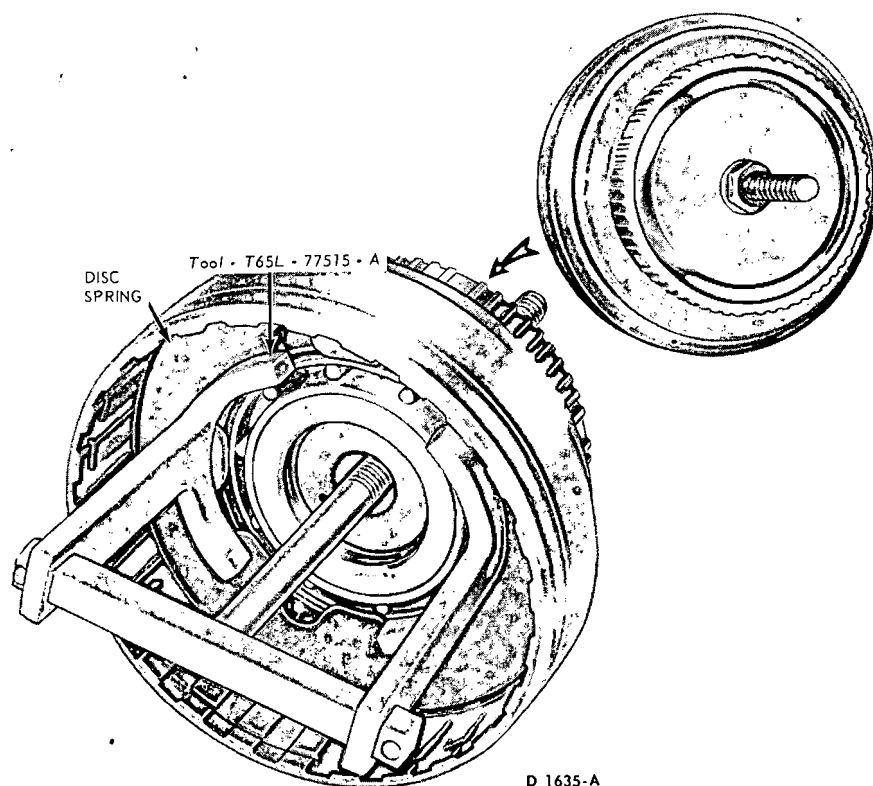

FIG. 59—Removing or Installing Disc Spring
3. Remove the snap ring (Fig. 59) that secures the disc spring in the clutch cylinder. Remove the disc spring.
3. Make sure that the steel pressure ring is in the groove on the piston. Position the disc spring in the cylinder with the convex face downward. Install the spring as shown in Fig. 59. Secure the disc with the retaining snap ring.